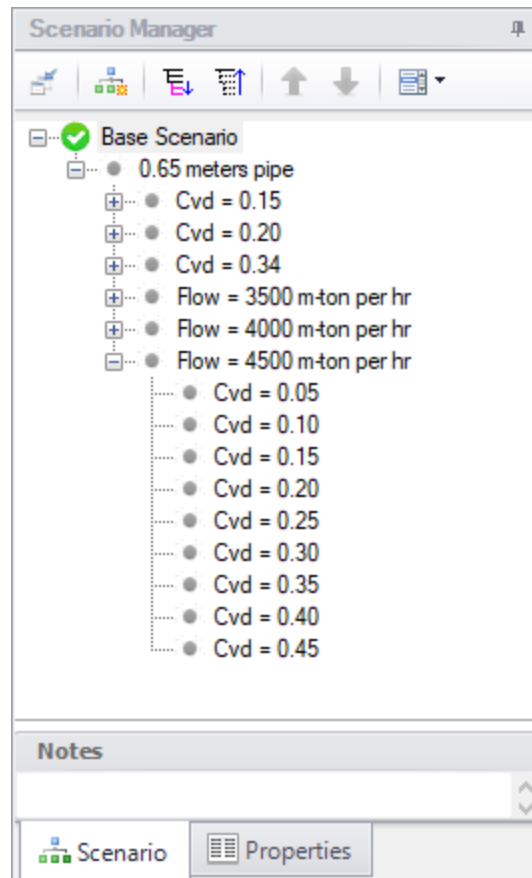

Figure 9: The Scenario Manager on the Quick Access Panel can be used to clone scenarios to easily create additional constant throughput cases
4. There are now three additional sets of scenarios, each for a different throughput value. Each of the three flows will have a set of scenarios for a range of different solids concentrations, as shown in Figure 9.